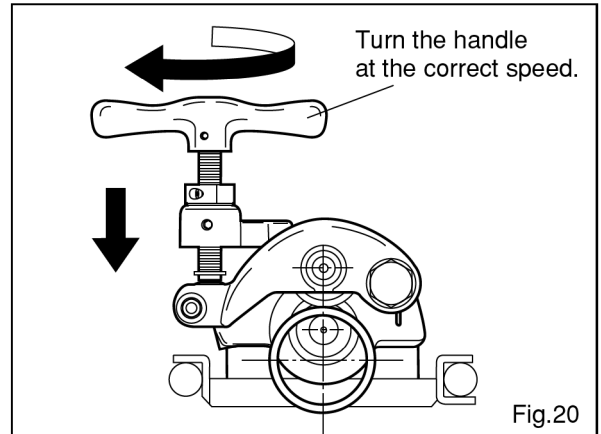

Fig.20
- 2) After ensuring that the pipe will not slip out, Turn the handle according to the appropriate speed indicated in Table 2 below. (Fig. 20)